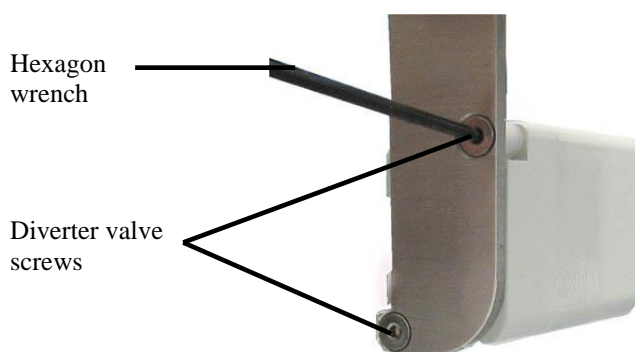

Fig. 31: Dismounting the diverter valve
6. Mount the diverter valve to the diverter valve assembly by using the hexagon wrench shipped with the kit (→ Fig. 31, page 69). The diverter valve must be mounted with the waste connection facing upward.
4. Loosen the two diverter valve screws by using the hexagon wrench shipped with the kit (→ Fig. 31).